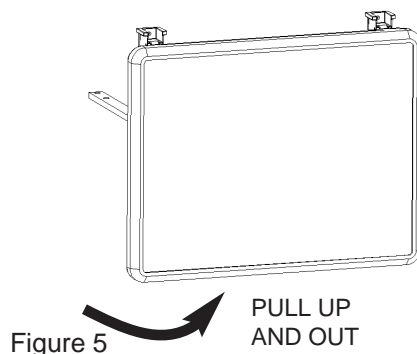
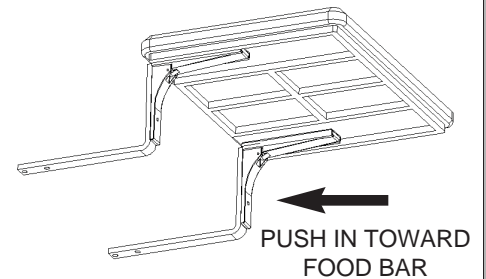

Figure 5
Figure 6
Step 8: To raise End Shelf for use, grab bottom of End Shelf and pull it up and out (see Figure 5) then push in toward food bar (see Figure 6). To lower, pull End Shelf out and fold down.